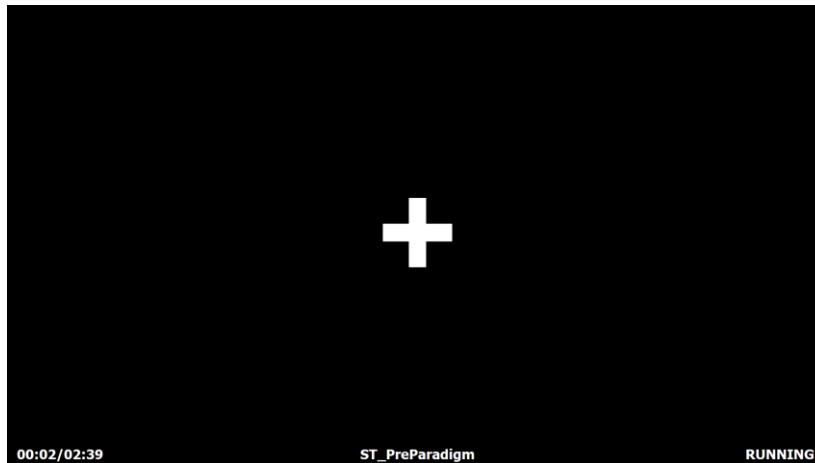

Figure 2. Exemplary operator window during playback.
- Operator Window** An operator window additionally shows information about the current time, total playback time, currently active task, and current ParadigmPresenter state (cf. Figure 2).